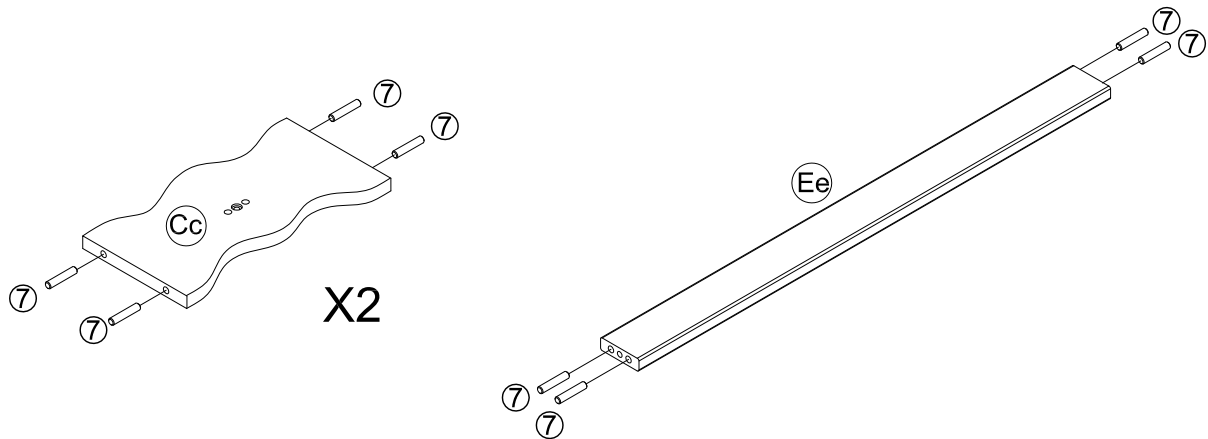

FIGURE 1
- 1.1 INSERT (12) WOOD DOWELS ⑦ INTO HOLES LOCATED AT UPPER END OF LEGS #Cc AND CORSSBAR #Ee AS SHOWN IN FIGURE 1.